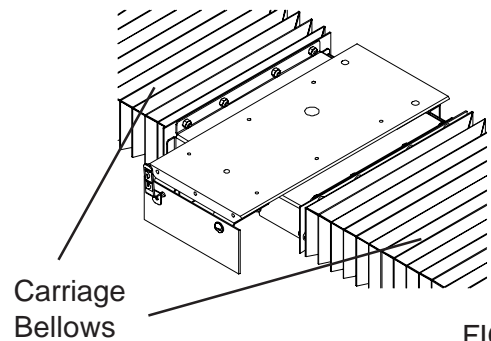

FIG. 14b
2. Lift the bellows, (See FIG. 14b) if used, and wipe off the traverse driveshaft and the bearing rails monthly. When a squeaking noise is coming from the actuator bearings, follow the lubrication procedure for actuator and linear bearings located on the following page. Generally, this will be every 6 months to a year.